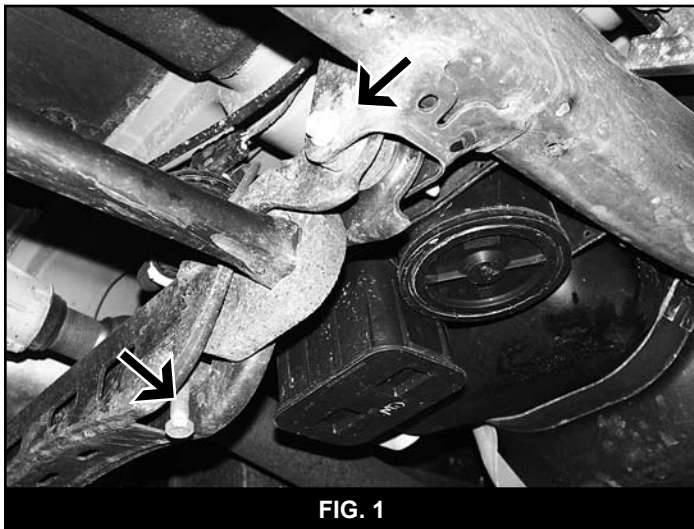

FIG. 1
4. Measure and record the length of the exposed thread on the torsion bar adjusting bolts for later reference (Fig 1).
9. Remove the two bolts mounting the torsion bar crossmember to the frame (Fig 1). Remove the crossmember and retain the mounting hardware.